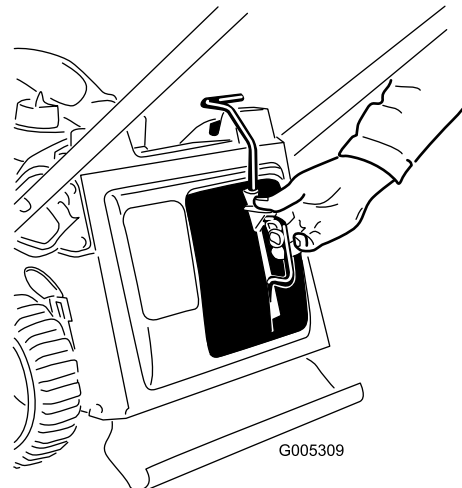

Figure 26
3. Insert the mulch plug (Figure 26).